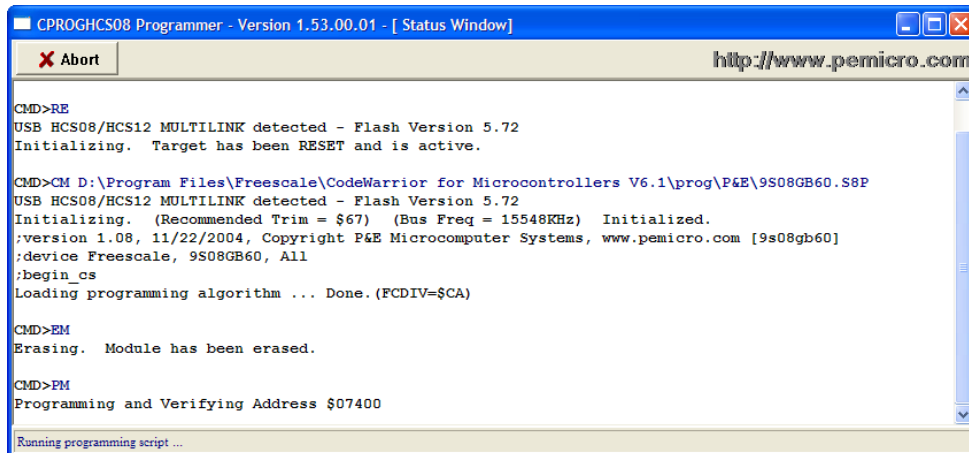

Figure 5-23. Status Window for Connection Manager
5. Click on the Connect button. The programmer window displays the running status in a window as shown in Figure 5-23 and then automatically closes this window.